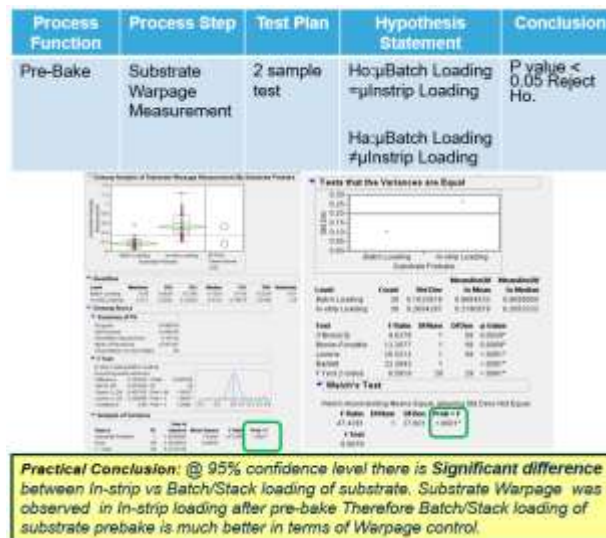

Fig. 5. Substrate warpage measurement.
- Method#2, which is the batch/stack loading of substrate pre-bake, resulted to less warpage in Fig. 5 compared to Method#1 which is the in-strip loading using magazine after pre-bake